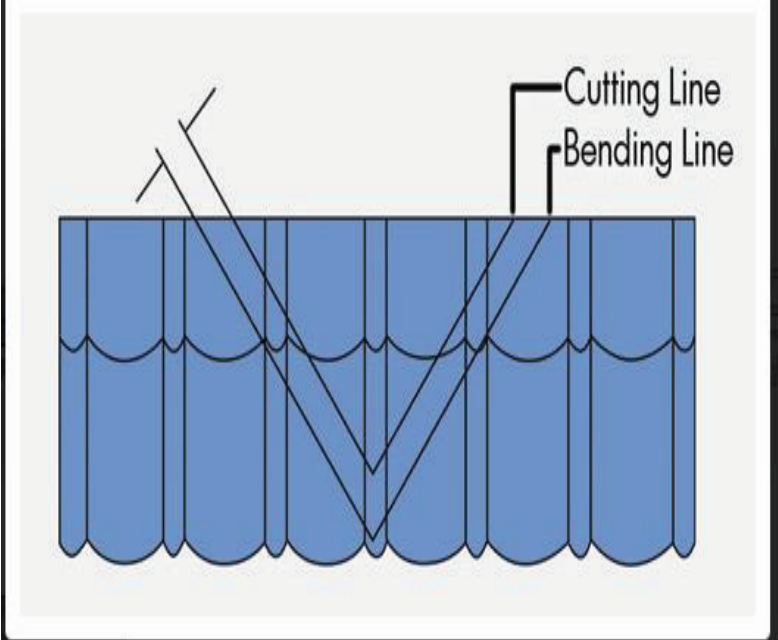

Figure 1.5
- 2) Measure and mark tiles with chalk ensuring the matching corrugation of the overlapping tiles to be cut, is taken as the measurement of the starting point (Figure 1.5). This forms the bending line (Figure 1.6). Add the height of the ridge board projection above the time line to the bending line measurement.